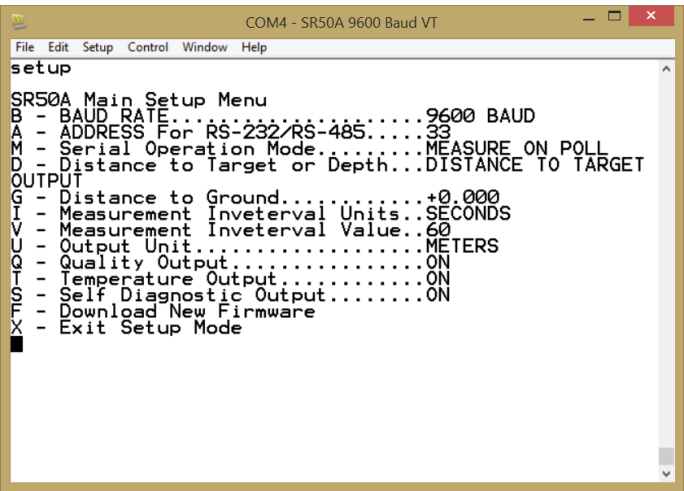

FIGURE E-7. Testing the Configuration
7. All changes needed to work with the SR50A/T are complete. You are back at the main screen with the cursor blinking in the upper left corner of the window. To see if communication has been established with the SR40A/T, type **setup** and press **enter**. The word **setup** should appear in the terminal window and the SR50A/T setup window should appear as well (FIGURE E-7).